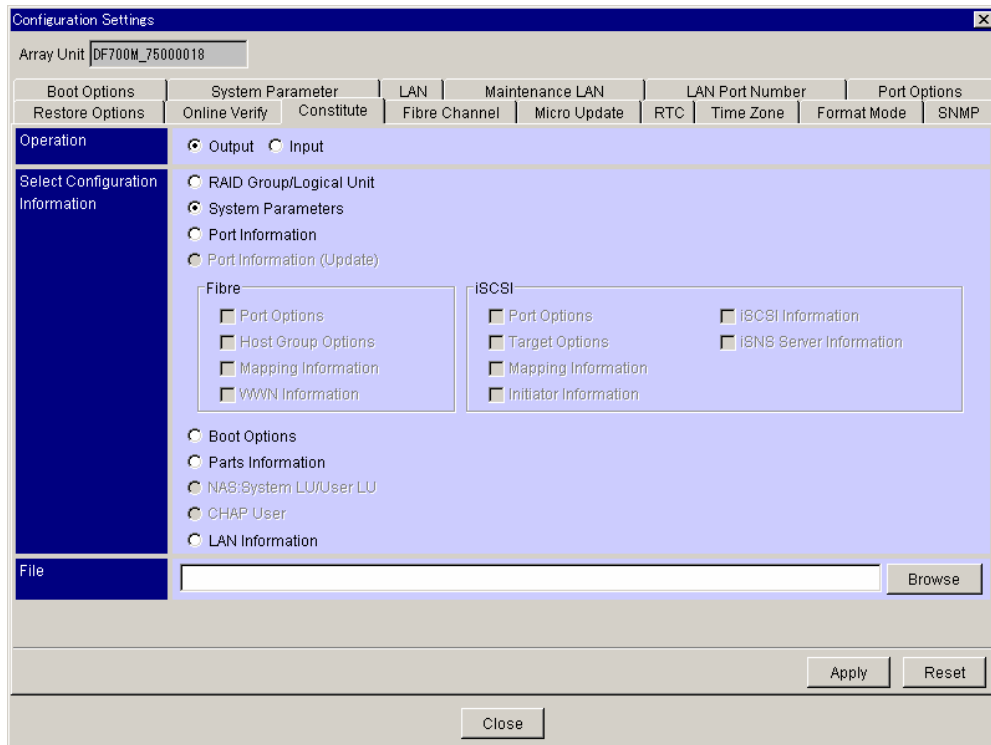

Figure 5.36 Outputting Configuration Information to a Text File
3. Click the **Constitute** tab (see Figure 5.36). For a detailed description of the **Constitute** tab, refer to section. 5.1.9.